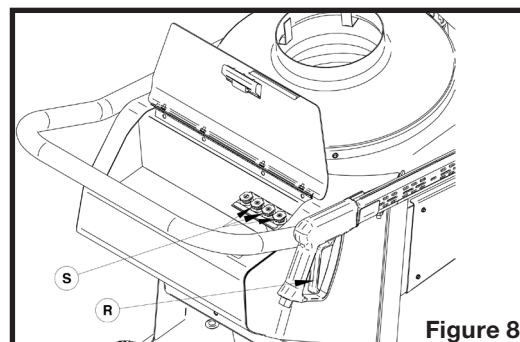
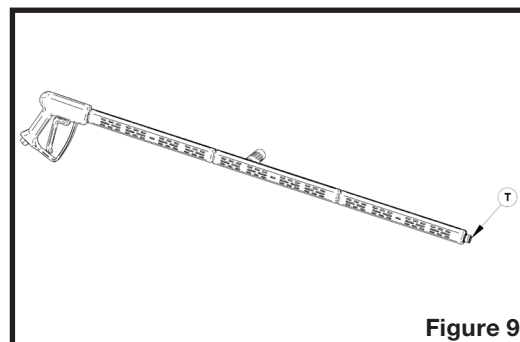

Figure 8
Figure 9
5. Depress the gun trigger (R on figure 8) until water flows out limp and regularly. Release the gun trigger.
6. Install a high pressure nozzle (S on figure 8) at the wand outlet (T on figure 9):